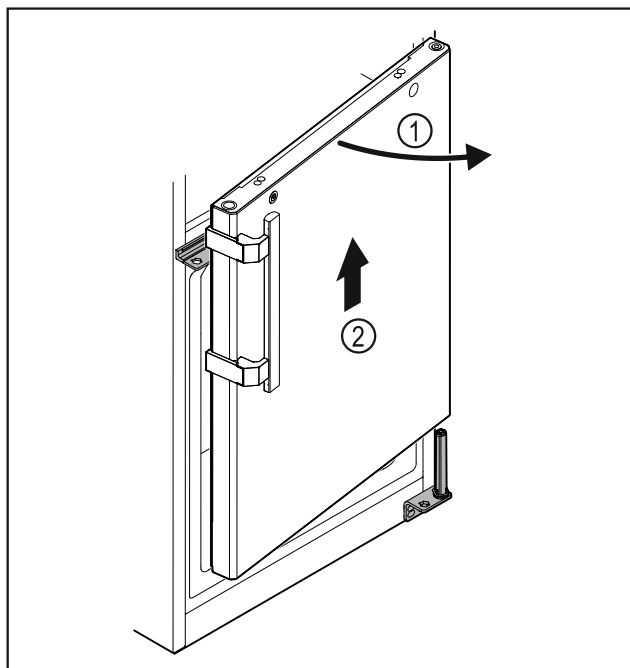

Fig. 24
- Open the door Fig. 24 (1) slightly, lift it straight up by around 200 mm and take it off Fig. 24 (2).